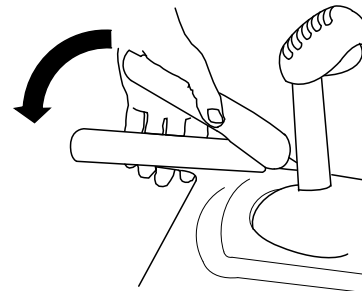

Figure 10
3. Squeeze the left (traction) lever to the handgrip (Figure 10).
6. Squeeze the left (traction) lever to the handgrip (Figure 10).